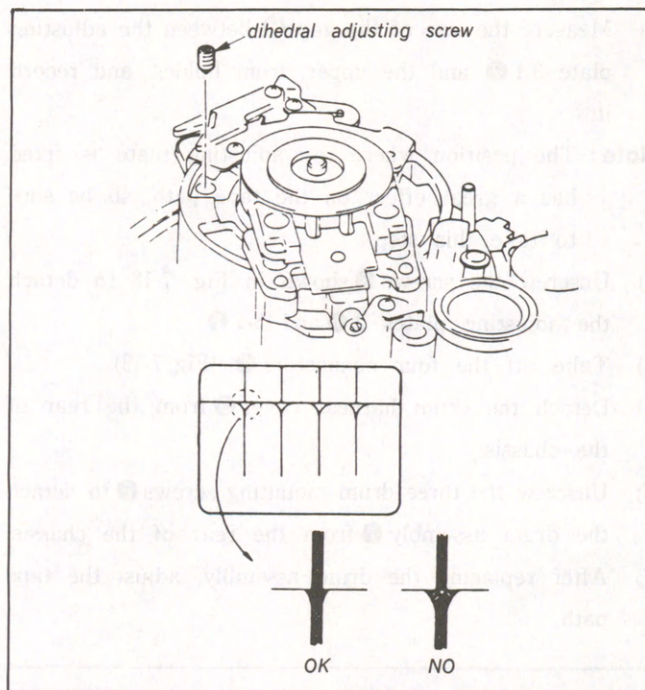
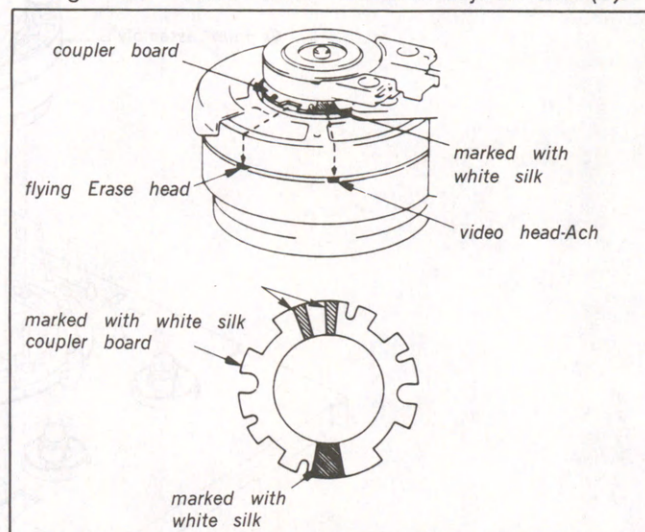

Fig. 7-15. Video head dihedral adjustment (1).
Fig. 7-16. Video head dihedral adjustment (2).
- 1) As Fig. 7-15 shows, insert the two dihedral adjusting screws (Jig Ref. No. J-10) into the adjusting screw holes on both sides of the video head-Ach (Fig. 7-16), so that the tops of the screws become flush with the upper face of the video head disk. (If they are screwed insufficiently, the heads of them strike against the upper drum and the video head disk does not rotate. Conversely, if they are too much, the head base is moved and the video head dihedral angle deflects widely.)